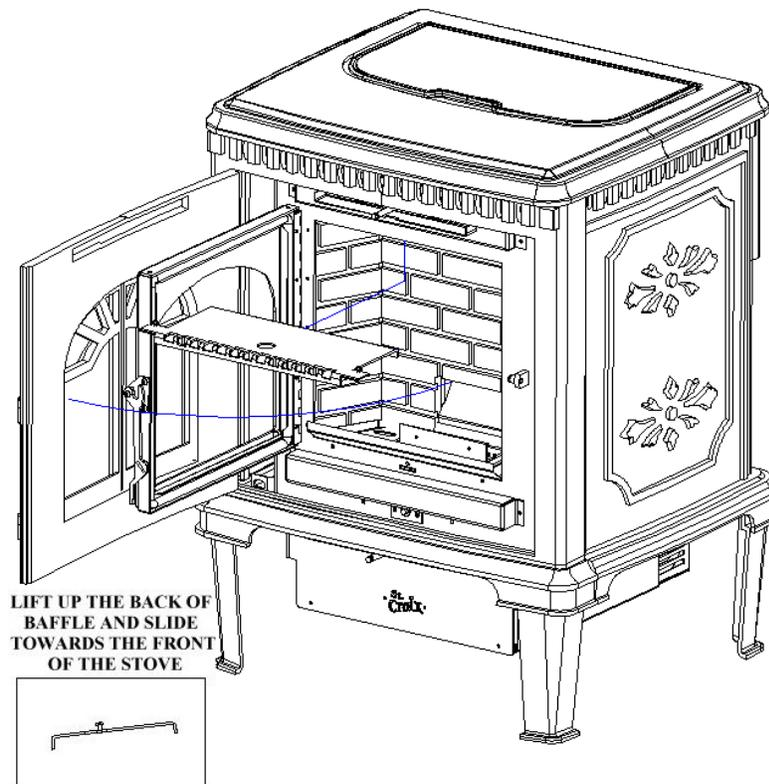

Figure 9
To remove the baffle (See Figure 9), lift the back of the baffle up to clear the inner back of the stove and slide towards the front of the stove. The baffle will slide out of the keyhole slots and drop down. *When putting the baffle back in the stove, make sure the screws are in the keyhole slots and the back of the baffle is lifted up over the inner back.*
4. The Exhaust Fan and Room Fan should be removed and cleaned annually. Use compressed air to blow out the motors. Call dealer for this service. Annual oiling of the motors is not needed. (See fig. 9 for more information)